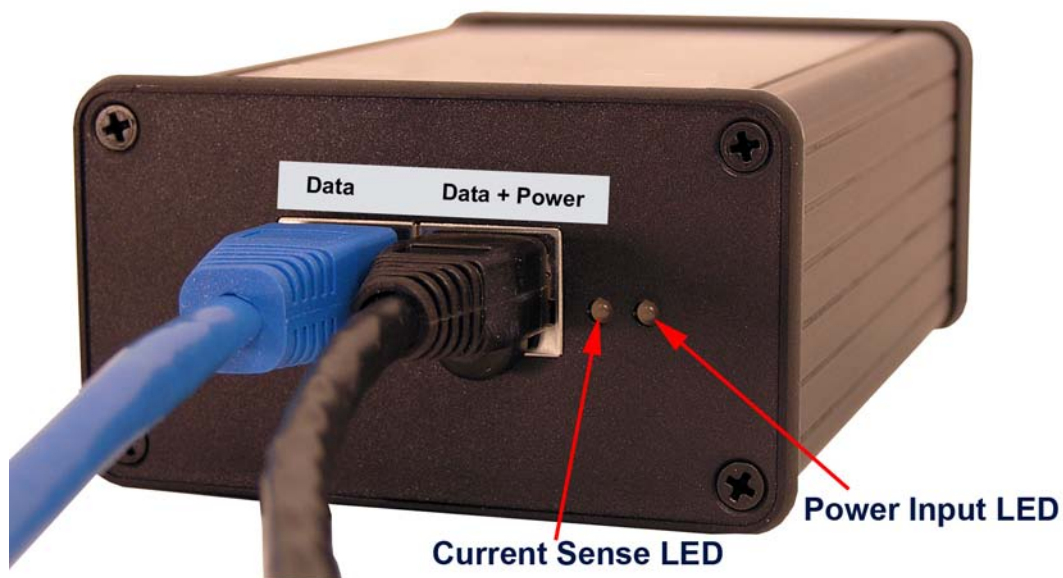

Figure 3-24: Connect customer computer or network device
- 1) Insert one end of an RJ-45 to RJ-45 Ethernet cable assembly to the RJ-45 receptacle, labeled **Data**, on the outside of the DC PSU/NIA and the other end to the customer's computer (Figure 3-24:).